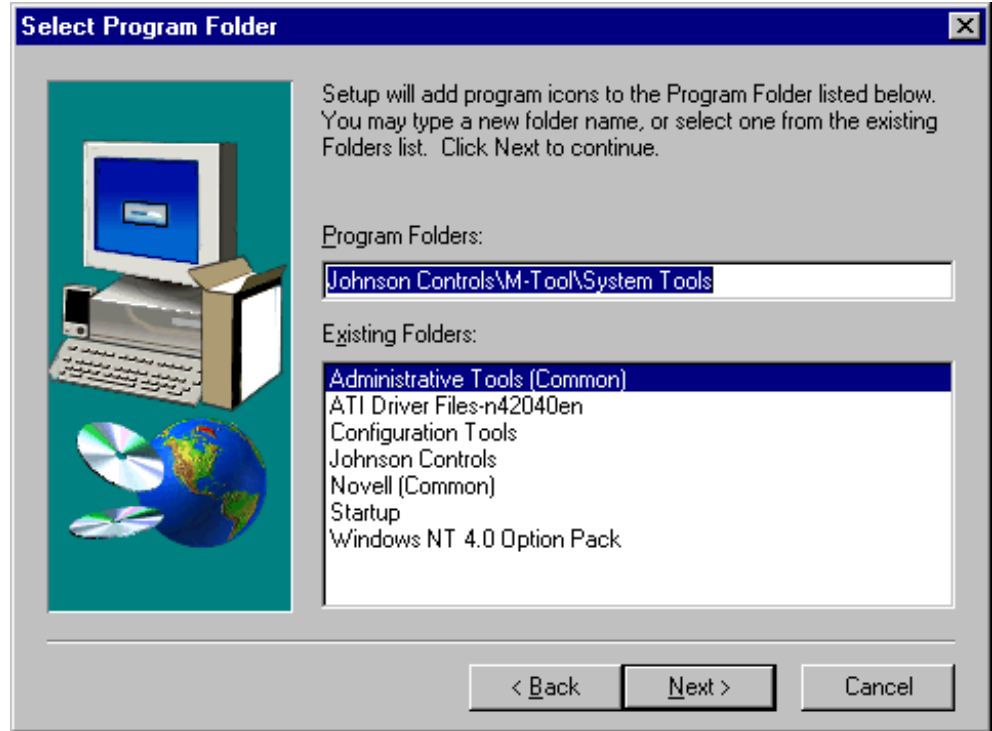

Figure 10: Select Program Folder Dialog Box
18. Click Next. The Select Program Folder dialog box appears (Figure 10).